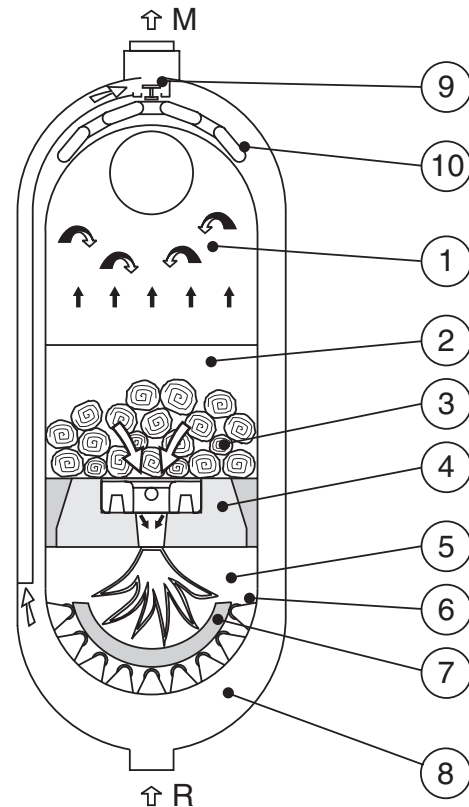

fig. 3
The hydraulic system inside the boiler is designed in such a way that a thermostatic system keeps always the temperature water high that surrounds the wood stock so as to eliminate the dangerous phenomenon of condensation. The boiler is composed of two oval elements placed inside each other, so that between the two to form a cavity of water (Fig. 3).
We can distinguish the following parts (fig.3):
The solid residues of combustion (ashes), which lie on the high temperature refractory-lined cradle (fig. 3, pos. 7,) will become with time always lighter until they will be dragged by the gas speed and will deposit themselves in the lowest area of the rear smoke chamber, from which they will be removed during the cleaning operation.
The burner is made up of refractory stone (fig. 3, pos. 4).